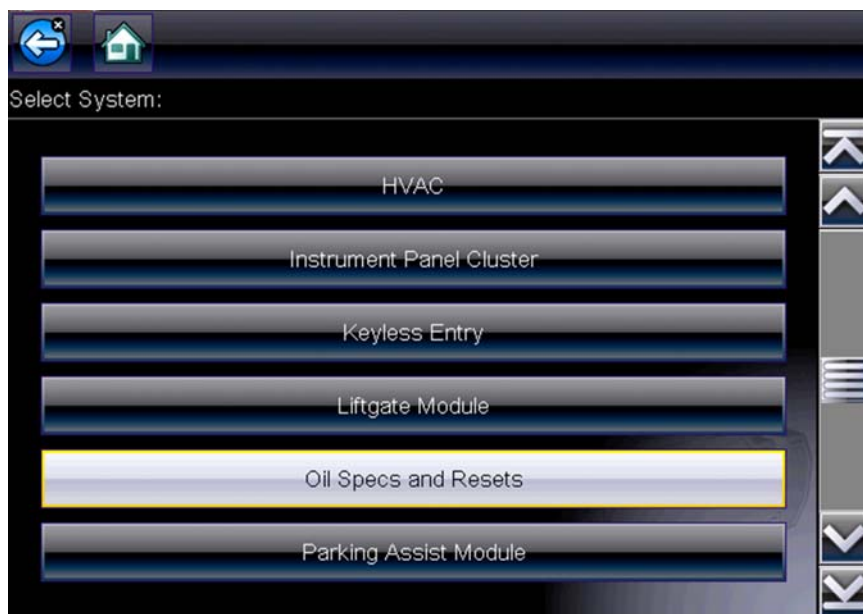

Figure 9-2 Scanner System Menu - Oil Specs and Resets Option
- **From within a current Scanner session** - select **Oil Specs and Resets** from the System menu (Figure 9-2), then proceed to Step 3 below.